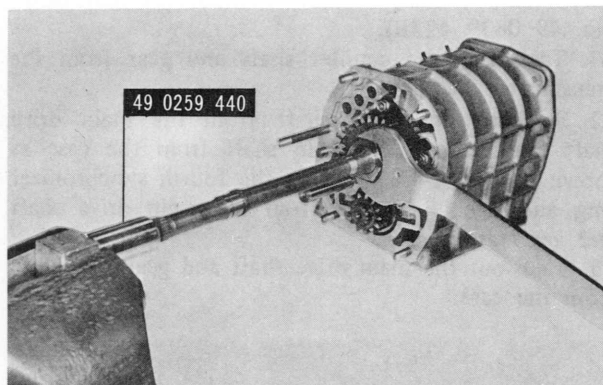

Fig. 7-4 Removing lock nut
20. Straighten the tab of the lock washer, hold the rear end of the main shaft with the holder (Part No. 49 0259 440) as shown in Fig. 7-4 and loosen the main shaft lock nut. Slide the reverse gear off the rear of the main shaft, and remove the key.